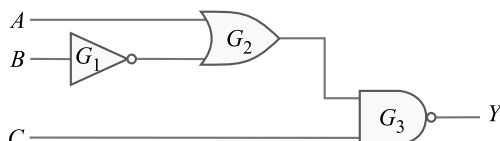

Fig. 24.57
**Example 24.38.** Write the Boolean expression for the digital circuit shown in Fig. 24.57.